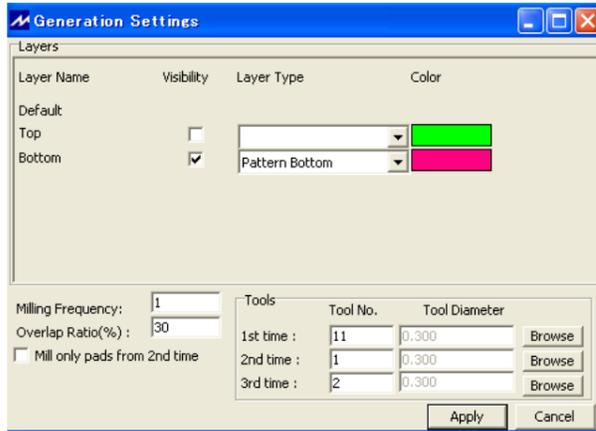

Fig. 35 Generation Settings
(2) Contour Extraction
- ① Click “Contour Extraction”  tool to show “Generation Settings” sub menu (Fig. 35) and confirm/enter the followings.